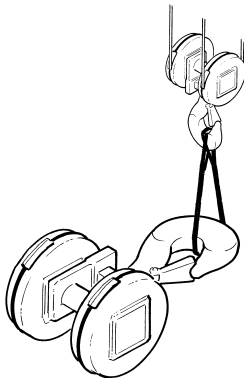

Figure 3-12 Lifting Bottom Block
- 4) Remove the Bottom Block from the pallet/packing and place it on the ground. Use a hoist or other suitable lifting means to pickup the Bottom Block if it is heavier than 50 pounds (weight is written on the container if it exceeds 50 pounds). Always lift/hold the Bottom Block from the Hook regardless if it is lifted using a hoist or handled manually (see Figure 3-12).